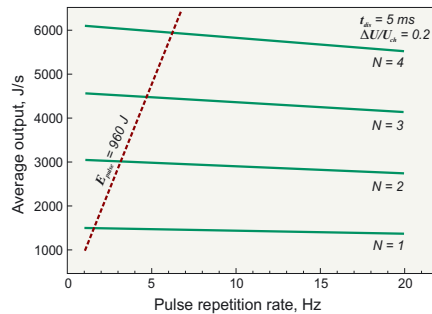

Fig. 4. Average power versus pulse repetition rate for variable pulsewidth drivers
4) See Fig. 4 for other repetition rates